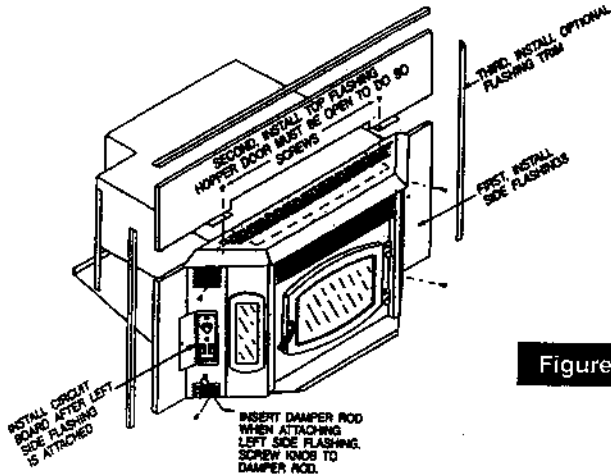

Figure 7
- Attach flashing (see figure 7). Route power cord out the side nearest a 120V receptacle. Slide in insert. A tight seal of the flashing to the fireplace face is not necessary. Do not restrict air to or from vents in flashing.